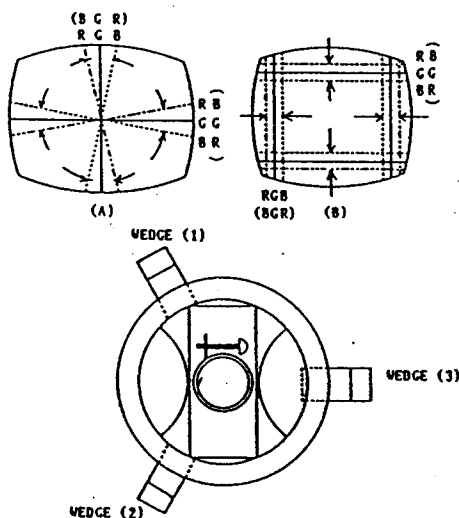

Figure 2 Dynamic Convergence Adjustment
3. Tilt the deflection yoke up or down, and insert tilt adjustment wedges (1) and (2) between the deflection yoke and the CRT until the mis-convergence illustrated in Figure 2 (A) has been corrected.
4. Tilt the deflection yoke right and left, and insert tilt adjustment wedge (3) between the deflection yoke and the CRT until the mis-convergence illustrated in Figure 2 (B) has been corrected.